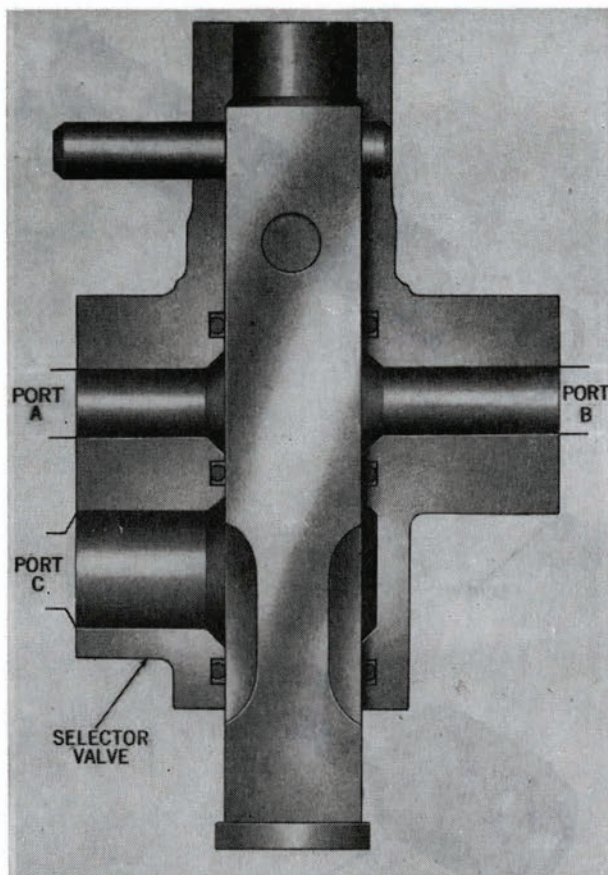

Figure 162—Selector Valve—Sectional View.
**Selector Valve.** The selector valve, figures 162 and 163, is a manually operated two-position plunger; one position is for normal impulse firing of torpedoes, the other is for firing water slugs. A toggle pin secures the valve in the desired position. In its normal firing position (toggle pin through the inner holes in the valve body), the selector valve performs no function in the firing cycle. In its water slug position, the selector valve connects the space above the lifting cup to the muzzleward end of the operating unit. This prevents movement of the valve plunger (normally prevented by the roller of the roller trip mecha-